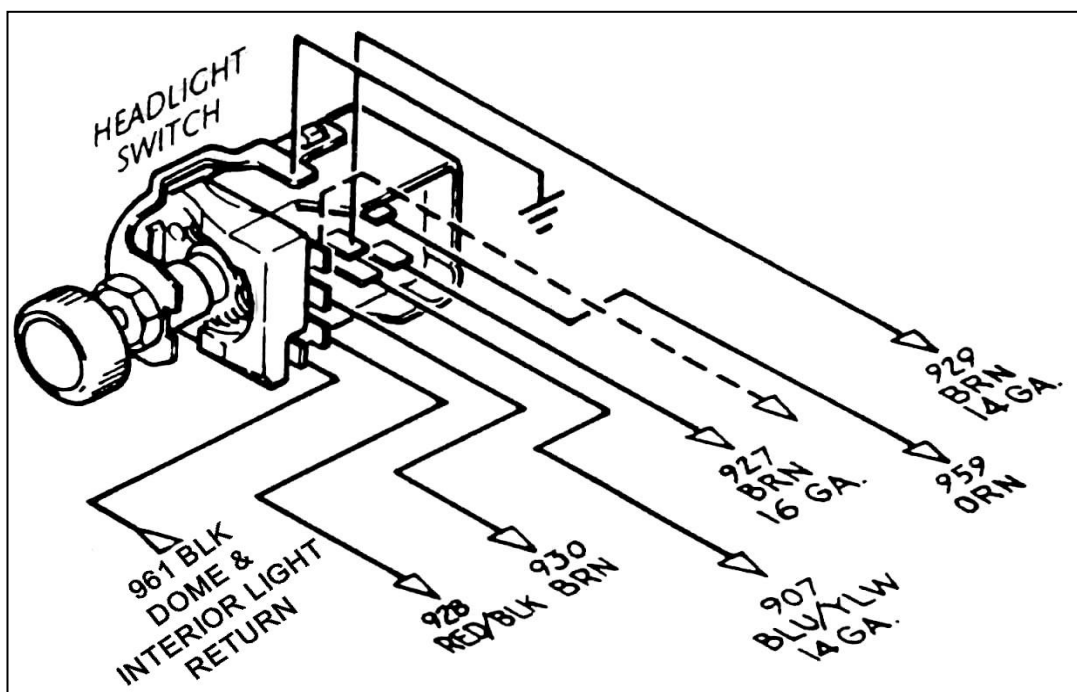

Figure 10-6 HEADLIGHT SECTION B Wiring (Painless Part #80152)
- 10.4.1** Interior Lights are switched through the door switches and the dash-mounted headlight switch, which is usually rotated counter-clockwise to turn on. These switches apply ground to the circuit. YOU WILL NEED TO SUPPLY THESE GROUND WIRES. 12V is continually present at the light bulbs. See **Figure 10-6**.
10.6 HEADLIGHT SECTION B Wiring. See Figure 10-6.
*Note: On late-style GM headlight switches, the park lights terminal to which wire #927 (brn) is connected (shown in **Figure 10-6**) has been omitted. In this case, wire #927 must be connected as indicated by the dashed line in **Figure 10-6**.*